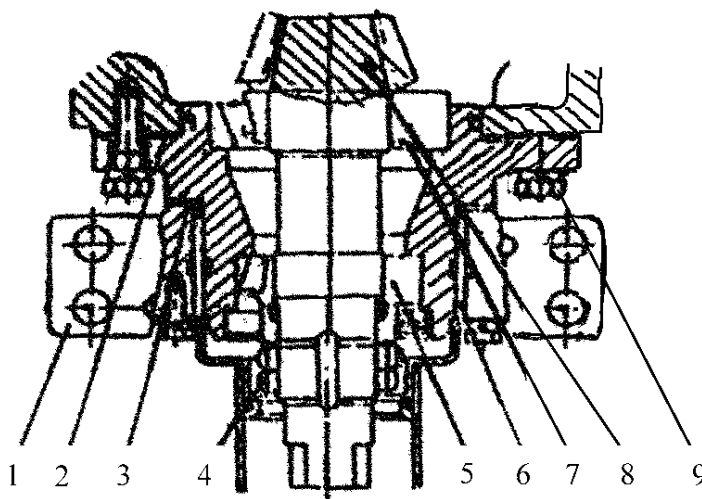

Fig.6-12 Adjustment of Drive Bevel Gear Bearing
to ensure the normal axial play, the two thrust shims (3) are respectively set on the ends between the front axle assy and the swing seat (1) for the future repairing or replacing because of long time wearing (Fig.6-12).